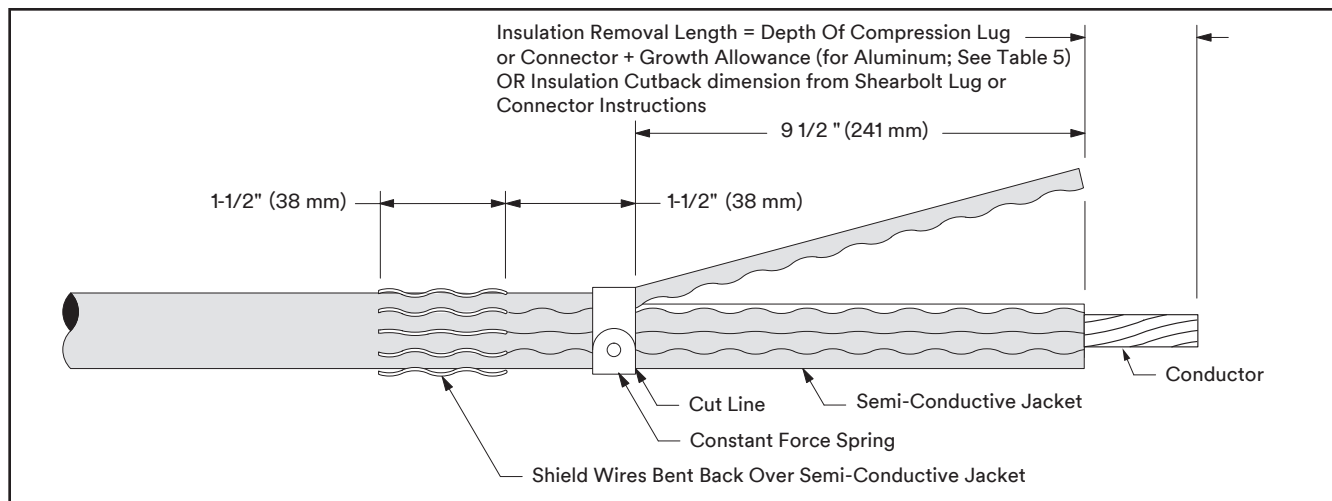

Figure 20
- 12.7 Remove semi-conductive jacket to dimension shown in Figure 20.
NOTE: To ease jacket removal, install constant force spring as shown in Figure 20 and ring cut 80% through jacket. Remove jacket sections by pulling against constant force spring. DO NOT BELL SEMI-CONDUCTIVE JACKET. Remove constant force spring.